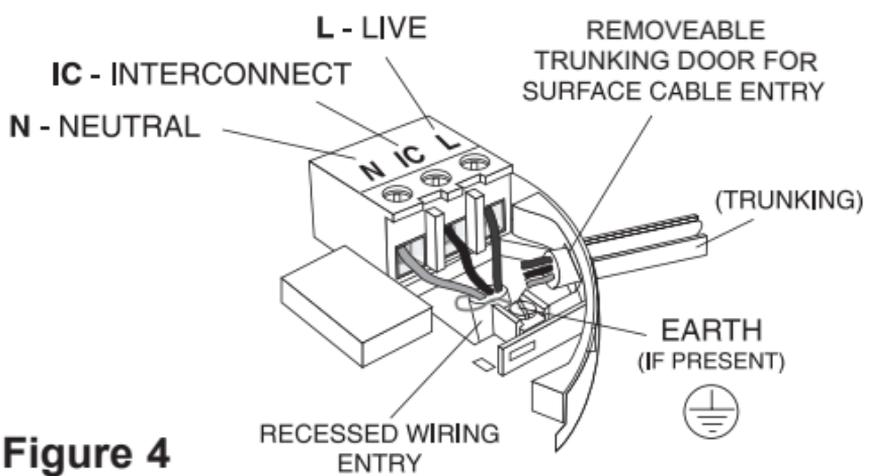

Figure 4
To interconnect the Alarms connect all the IC terminals together as shown in **Figure 4** (see “Interconnecting Alarms” section on page 16).
4. If the mains wires are recessed, bring the wires through the rear hole in the mounting plate as shown in **Figure 4**.
(a) position the mounting plate so the cable trunking is as shown in **Figure 4**.